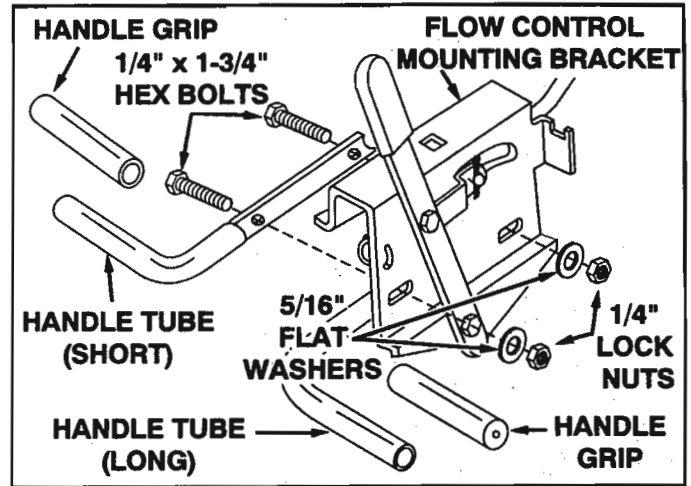

FIGURE 14
- Assemble the flow control mounting bracket and the handle tube (short) to the handle tube (long) using two 1/4" x 1-3/4" hex bolts, two 5/16" flat washers and two 1/4" hex lock nuts. See figure 14. **DO NOT TIGHTEN AT THIS TIME.**
- Place a handle grip on each handle tube. See figure 14.